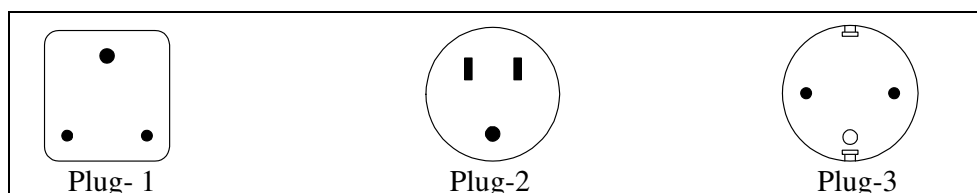

Figure 3. Line-Power Cord Types Available from SES
3. Connect the power cord to a properly grounded three-prong outlet. See Figure 3 for line-power cord types available from SES. Refer to Table 4 for description of the line-power cords.